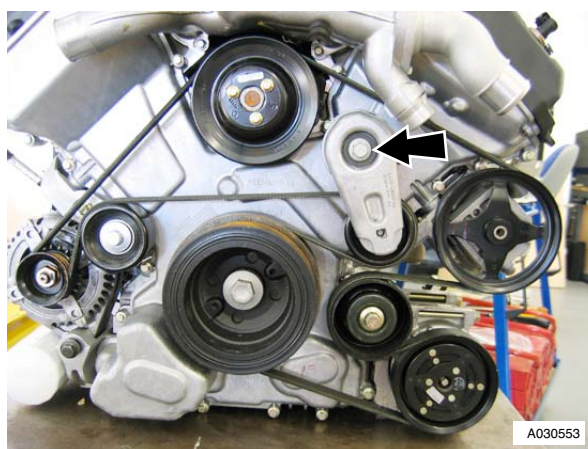

Figure 1
- Release drive belt tensioner, release drive belt from idler pulley (see Figure 1).